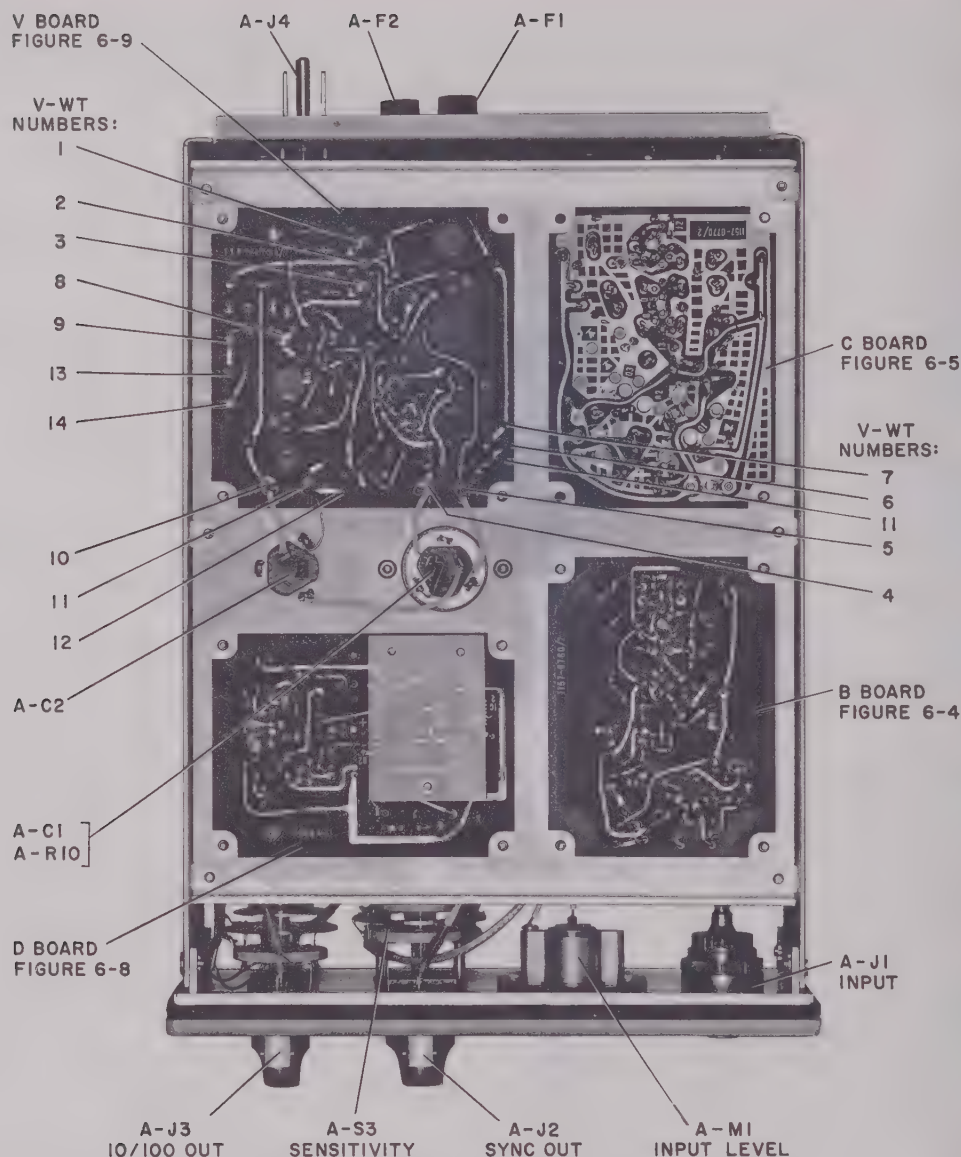

Figure 5-3. Interior bottom view.
- c. With the voltmeter ground terminal connected to WT2, verify the following dc voltages; refer to Figures 5-3 and 6-10: